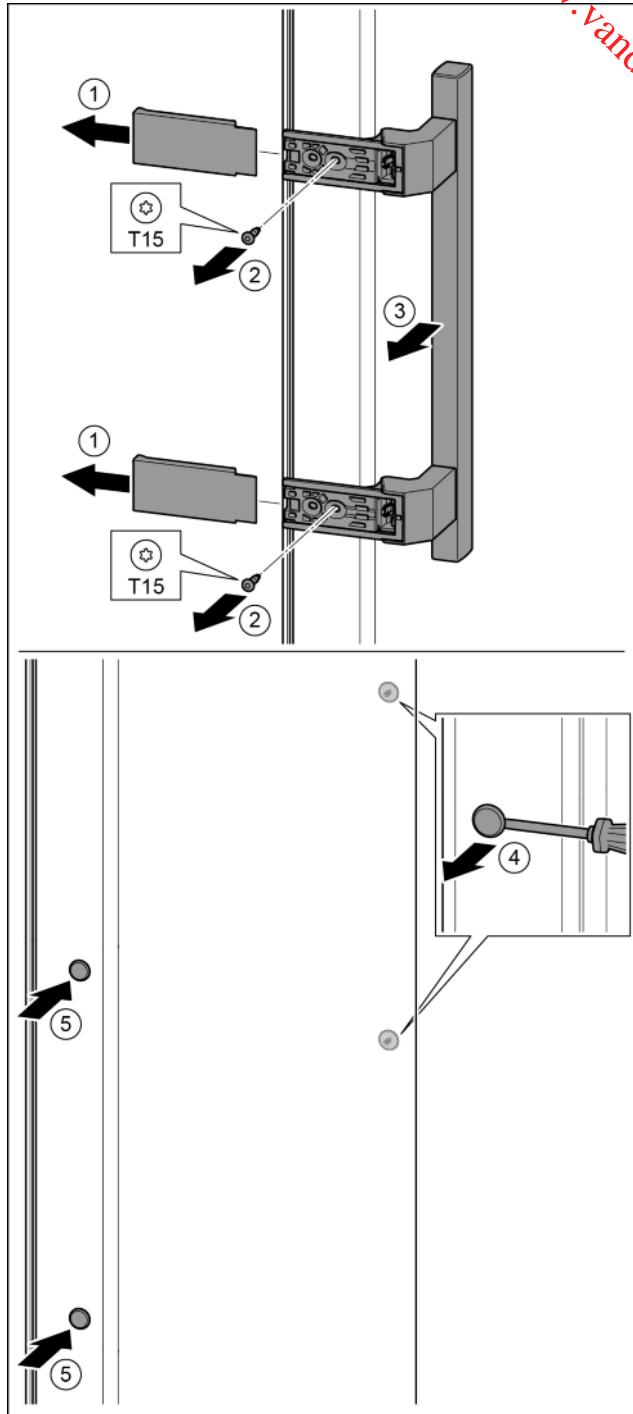

Fig. 30
- ▶ Remove the cover. *Fig. 30 (1)*
- ▶ Remove the screws with the T15 screwdriver. *Fig. 30 (2)*
- ▶ Remove the handle. *Fig. 30 (3)*
- ▶ Carefully lift up the plugs and remove them with a slotted screwdriver. *Fig. 30 (4)*
- ▶ Insert the plugs again on the other side. *Fig. 30 (5)*